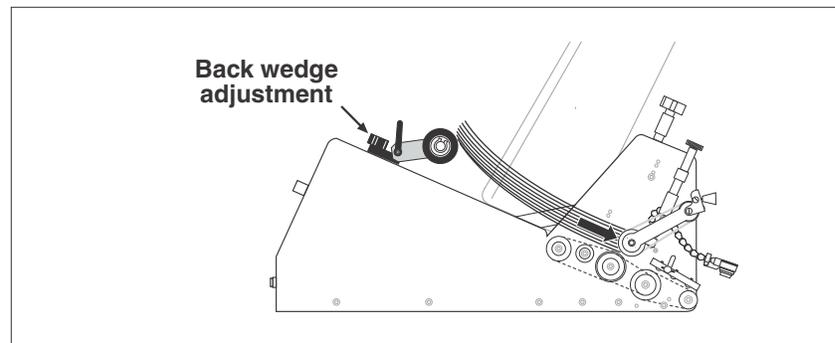

Figure 2-10. Positioning Material Prior to Loosening Back Wedge
2. Place the preshingled material in the hopper so that the edges rest against the curvature of the gate assembly (Figure 2-10).
3. Turn the back wedge wing-nut adjustment counterclockwise to loosen the wedge (Figure 2-10).